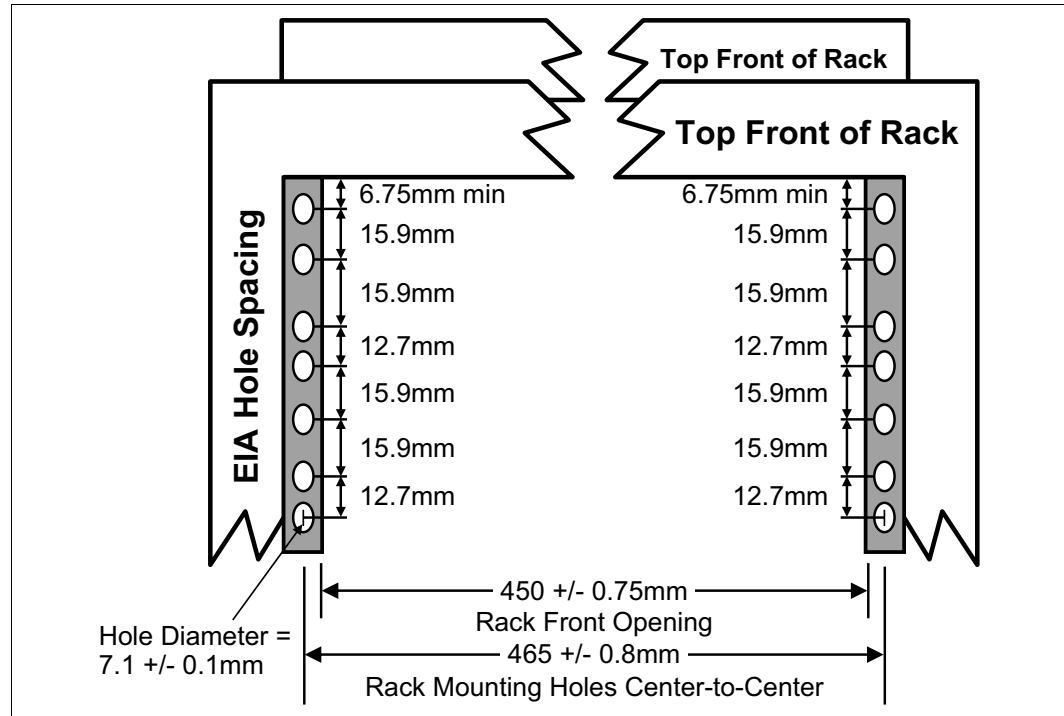

Figure 1-16 Rack specification dimensions: Top front view
- The vertical distance between the mounting holes must consist of sets of three holes spaced (from bottom to top) 15.9 mm (0.625 in.), 15.9 mm (0.625 in.), and 12.67 mm (0.5 in.) on-center, making each three-hole set of vertical hole spacing 44.45 mm (1.75 in.) apart on center. Rail-mounting holes must be 7.1 mm  $\pm$  0.1 mm (0.28 in.  $\pm$  0.004 in.) in diameter. Figure 1-16 shows the top front specification dimensions.